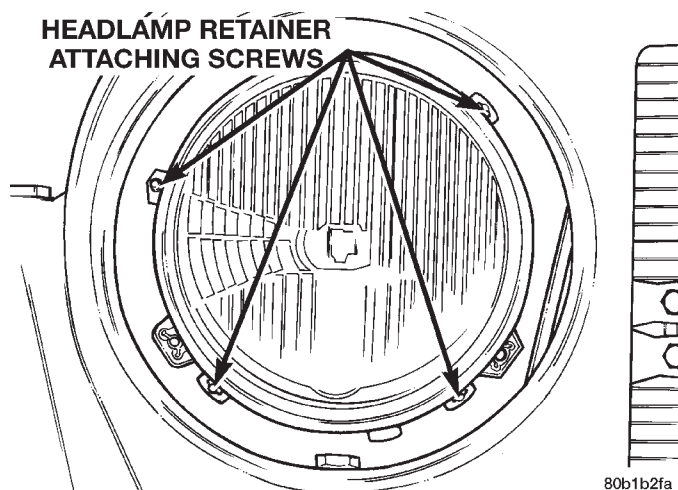

Fig. 2 Headlamp Retaining Ring
- (4) Remove the headlamp retaining ring screws and retaining ring (Fig. 2).
- (5) Remove the headlamp from vehicle.